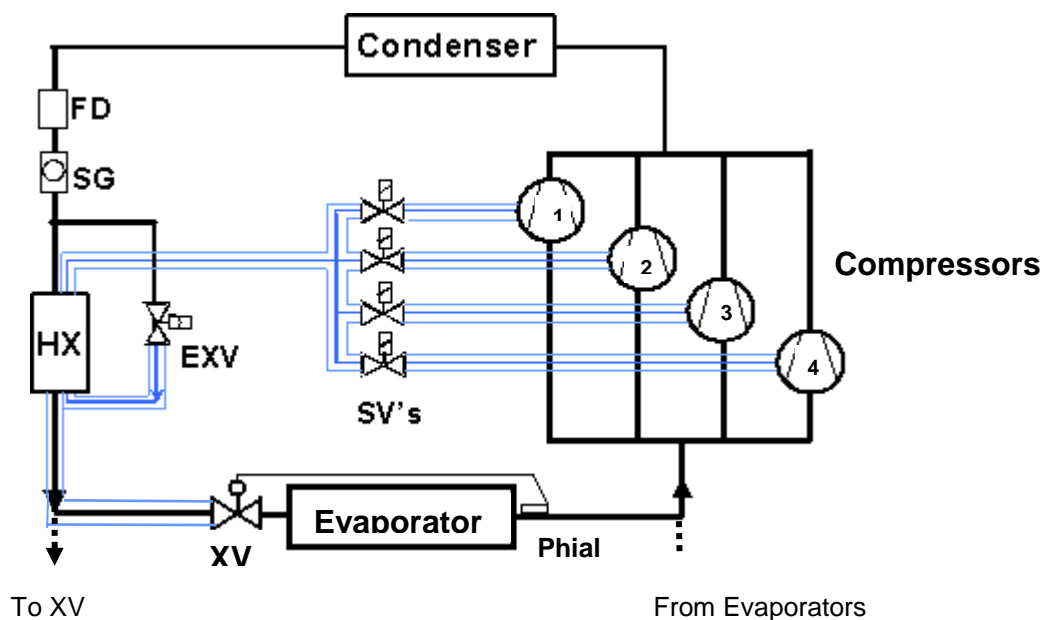

Figure 6: Arrangement for multiple compressors using one heat exchanger (HX)
Multiple VI compressors can share one subcooler (HX) and Electronic Expansion Valve (EXV) as shown in Figure 6. Solenoid valves must be fitted to the individual vapour injection lines to close when the compressor is switched off. This is to avoid excessive quantities of liquid entering the compressor during standstill.